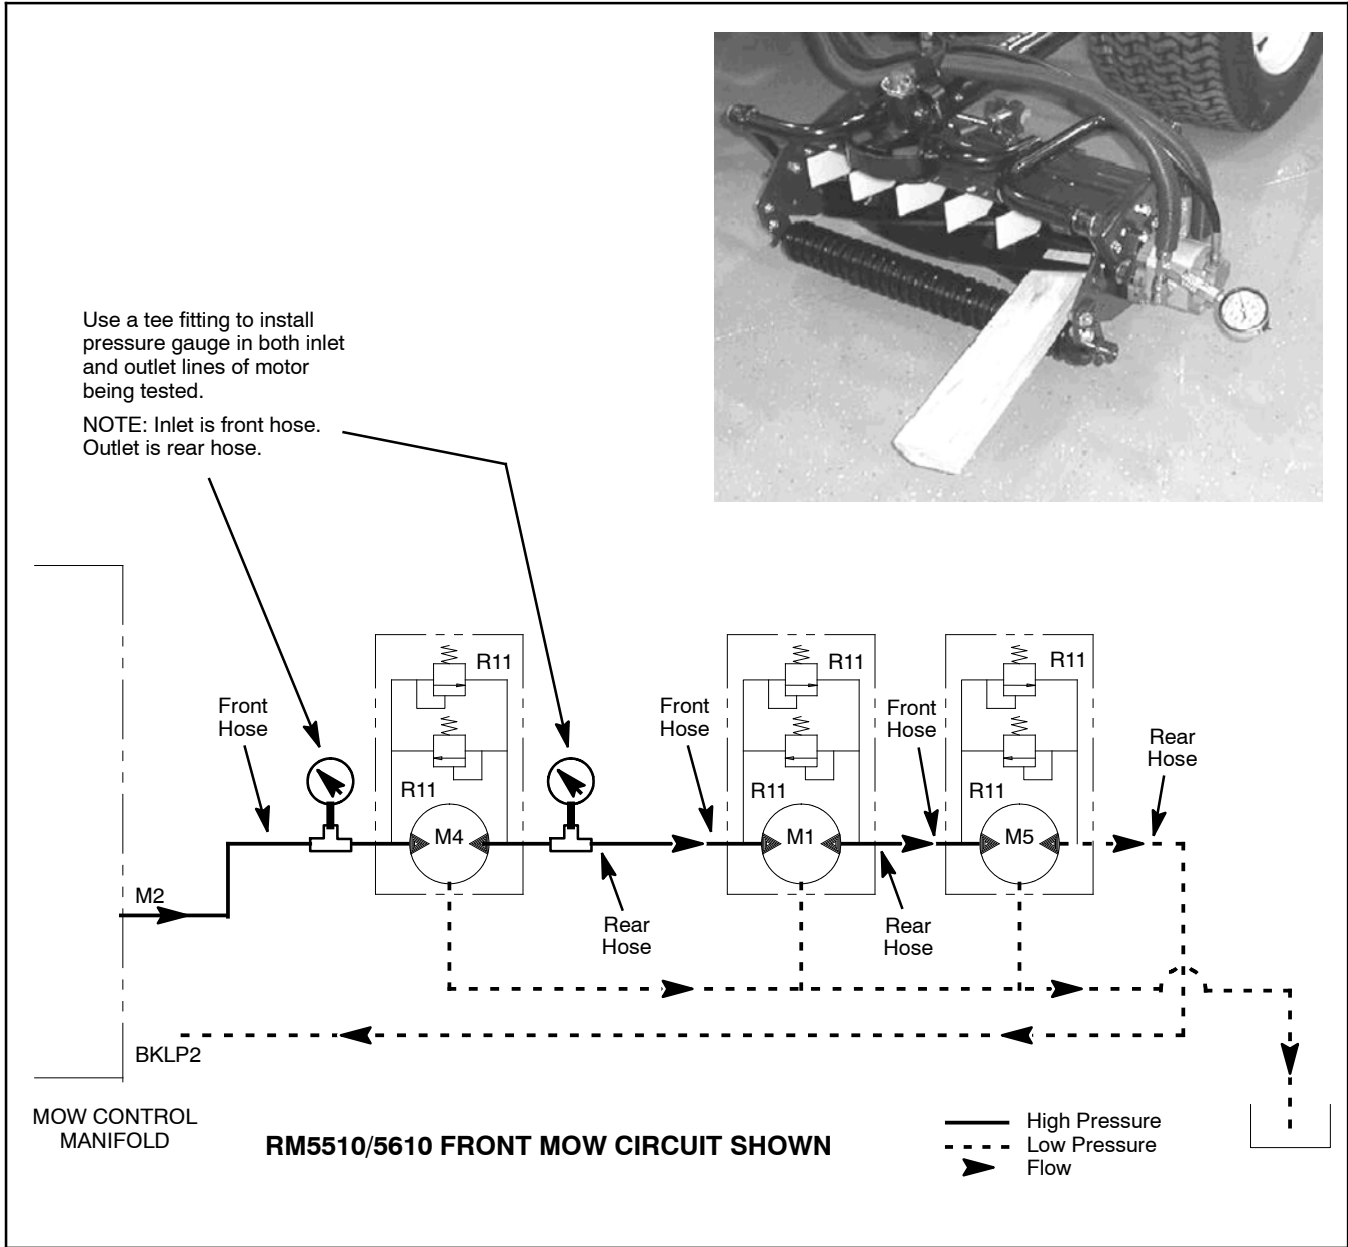

Figure 43
7. With cutting units in lowered position and engine OFF, insert a block of wood between cutting unit reel blades and carrier frame of cutting unit being tested to prevent reel from turning (Fig. 43).